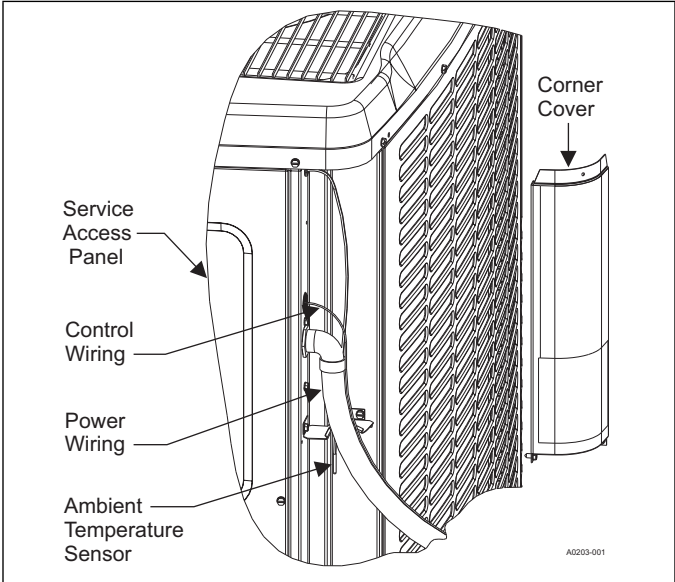
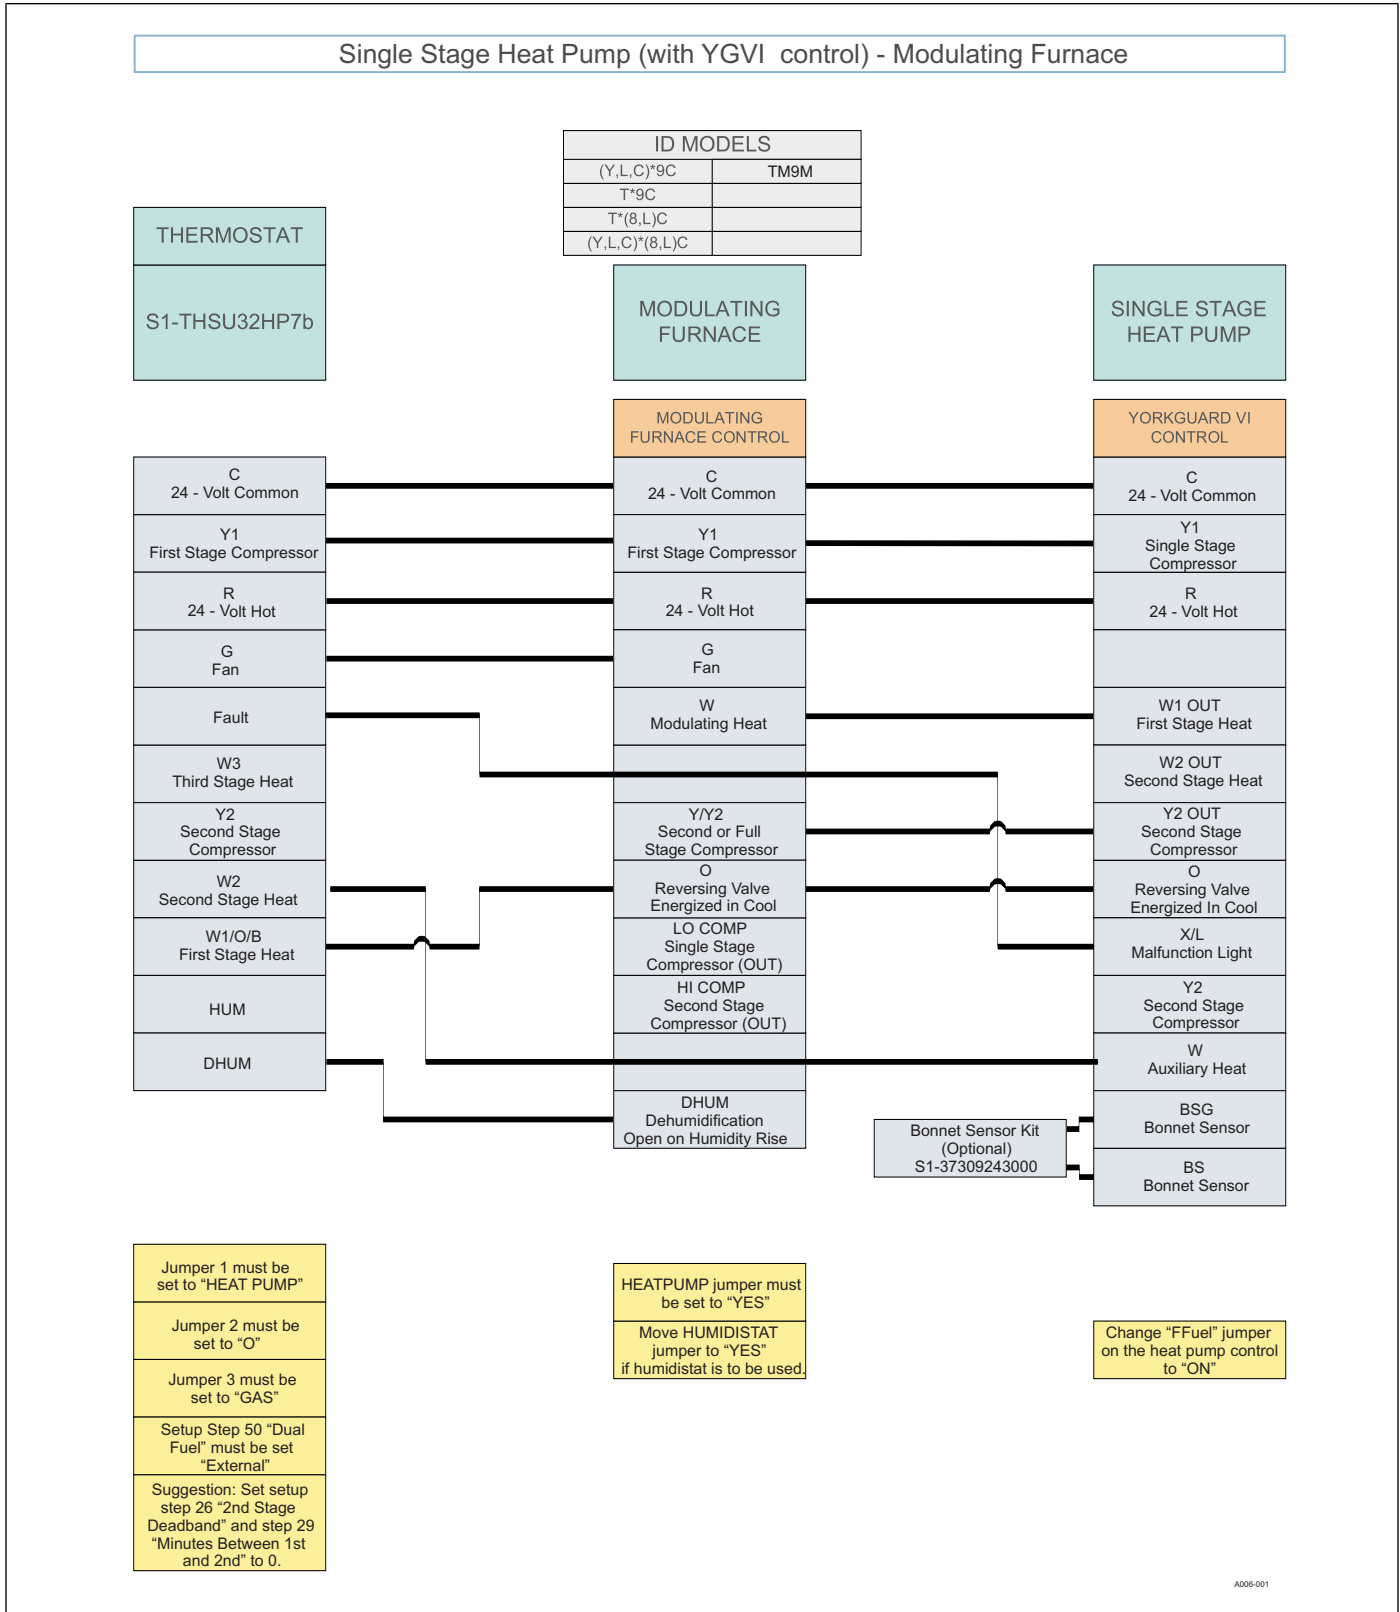

FIGURE 5: Typical Field Wiring
FIGURE 10: Thermostat Wiring – Single Stage Heat Pump (with YGVI control) – Modulating Furnace
- 2. Remove the screws at the bottom of the corner cover. Slide corner cover down and remove from unit. See Figure 5.
1. Route low voltage wiring into bottom of control box as shown in Figures 5 and 6. Make low voltage wiring connections inside the junction box per Figures 10 - 20.
2. Route low voltage four conductor shielded thermostat communications harness into junction box and connect to communications port on control board. See Figures 5, 6, 7, and 8.
works with the variable speed indoor unit to provide cooling at a reduced air flow, lowering evaporator temperature and increasing latent capacity. The humidistat in this control opens the humidistat contacts as the humidity rise. Installation instructions are packaged with the accessory. (Also see Figures 10 - 20). Prior to the installation of the dehumidification control, the humidistat jumper must be set to 'YES' on the indoor variable speed air handler or furnace control board.